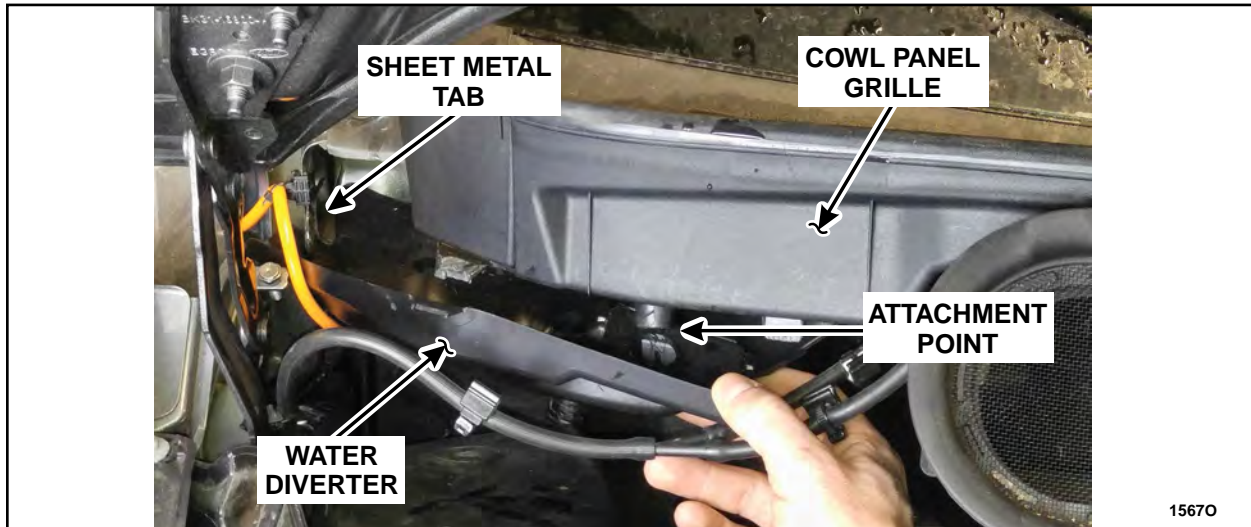

FIGURE 12
19. Install the supplied water diverter on the passenger side of the vehicle. See Figure 12.